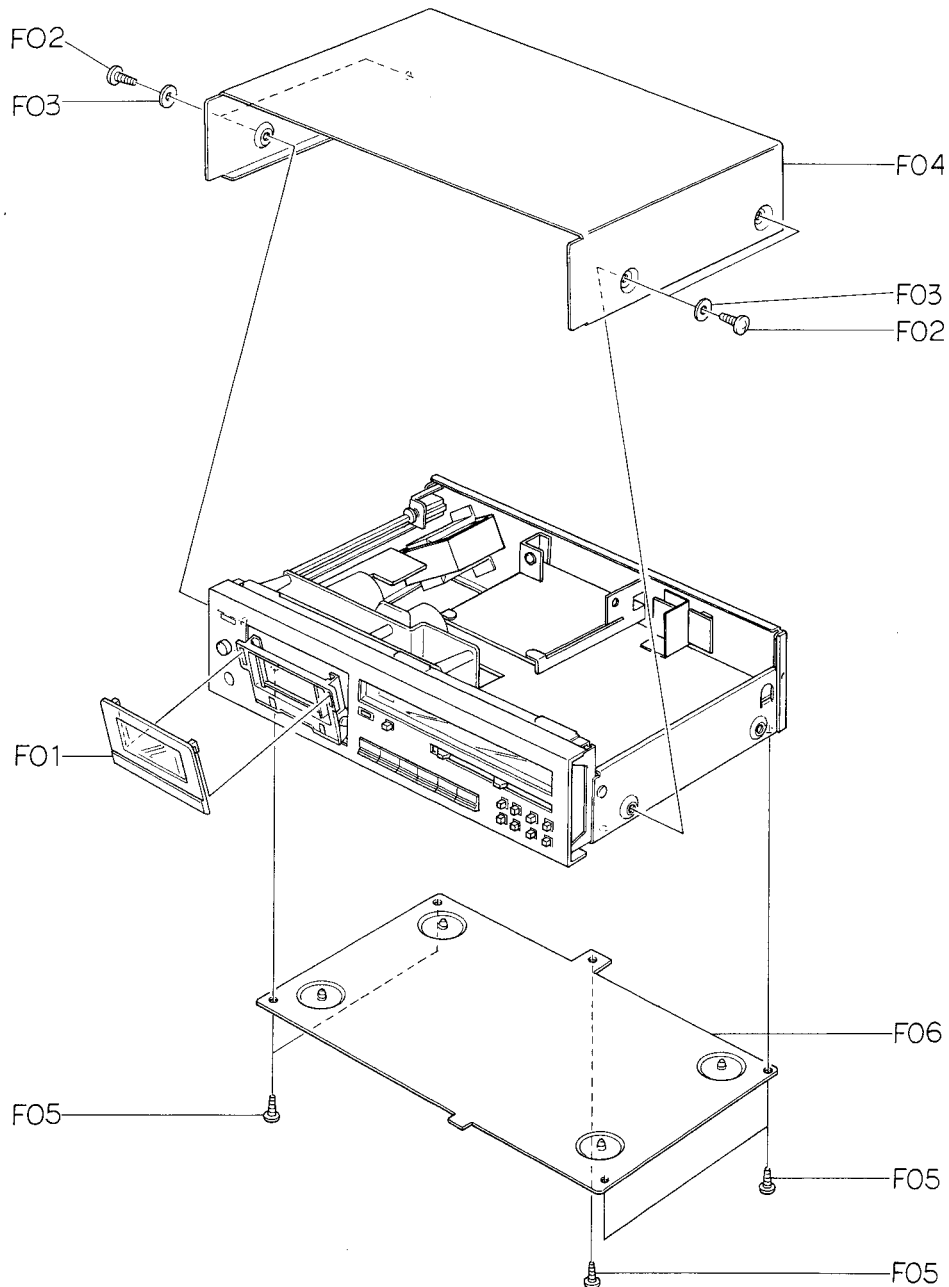

Fig. 2.1
Refer to Fig. 2.1.
- (1) Refer to Fig. 2.1. Remove Top Cover Ass'y and Bottom Cover Ass'y referring to items 2.2 and 2.3.
- (2) Pull out F01 (Volume Knobs) and F02 (Bias Tune Volume Knob).
- (3) Remove F03 (Power Switch Joint Bar) by releasing the self-interlocking pin of the Power Switch Joint Bar from Power Switch, and turn F03 (Power Switch Joint Bar) by 90° either clockwise or counterclockwise, then disassemble F03 (Power Switch Joint Bar) from the Power Switch Knob Ass'y.
- (4) Remove F04, then disassemble F05 (Front Panel Ass'y).
- (1) Refer to Fig. 2.1. Remove Top Cover Ass'y referring to item 2.2.
- (2) Remove F01, then disassemble F02 (Logic P.C.B. Ass'y).
- (3) Remove F03, then disassemble F04 (Headphone Switch P.C.B. Ass'y and Shield Case).
- (4) Remove F05, then disassemble F06 (MPX Filter Switch P.C.B. Ass'y).
- (2) Remove F26, then disassemble F27 (Bias Oscillator P.C.B. Ass'y).
- (2) Remove F01, F02 and F03, then disassemble F04 (Rear Panel Ass'y).
- (3) Remove F05 and F06, then disassemble F07 (Power Transformer).
- (4) Remove Power Switch Joint Bar by releasing the self-interlocking pin of the Power Switch Joint Bar from Power Switch and F08, then disassemble F09 (Power Switch Holder Ass'y).
- (5) Remove F10, then disassemble F11 (Power Switch).